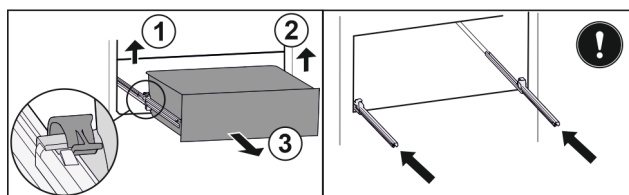

Fig. 187
- Lift left clamp and simultaneously pull drawer forwards on the left. Fig. 187 (1)
- Lift right clamp and simultaneously pull drawer forwards on the right. Fig. 187 (2)
- Remove drawer to the front. Fig. 187 (3)